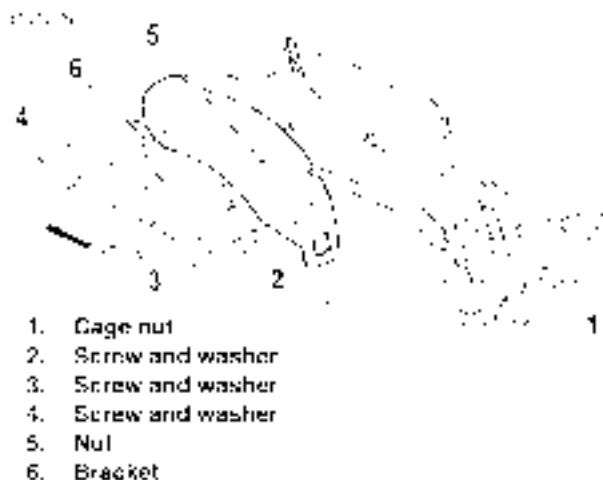

Figure 2-120. Rear Fender: FXDWG
1. See Figure 2-120. From under fender, remove screw and washer (2) securing front of fender to cage nut (1) on frame.
3. Remove screws and washers (4) from rear fender on fender support. Remove license plate bracket from fender.
4. Remove remaining screws/washers (3) and nuts (5) that hold fender in place and carefully remove fender and subplates.
2. See Figure 2-120. Place fender and subplates in position. Apply LOCTITE THREADED LOCKER 240 (blue) to screw (3) threads. Tighten nuts (5) to 12-18 ft-lbs (16.3-24.4 Nm).
4. Attach front of fender to frame with screw/washer (2) and cage nut (1).
5. Attach license plate bracket to fender with screws and washers (4).